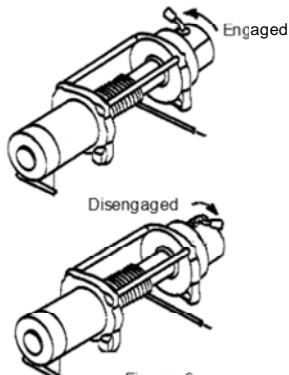

Figure 9
(See Figure 9) Set the freespool clutch knob to the "Disengaged" position. If there is a load on the wire rope the clutch knob may not move easily. **DO NOT FORCE THE CLUTCH KNOB.** Release tension on the clutch by joggling out some of the wire rope. Pull several feet of wire rope off the drum. Return the clutch knob back to, "Engaged" position. Activate the winch in Cable Out momentarily to check drum rotation direction. If the drum rotates in the wrong direction, recheck your wiring. Release the clutch and pull out the wire rope and secure to anchor or load. Check that there are least five (5) turns of wire rope left on the drum. Re-engage the drum by returning the clutch knob to the "Engaged" position.